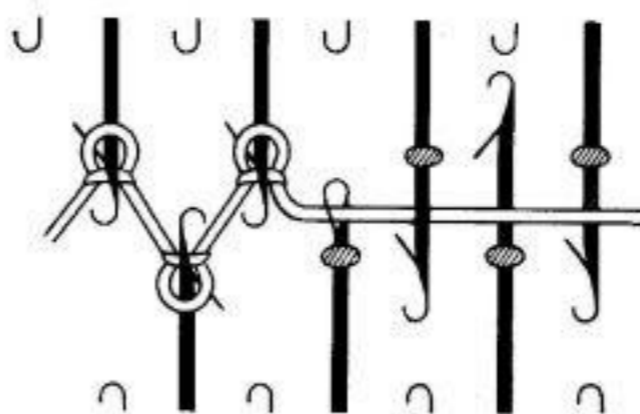

Fig. 83
3. Pass the yarn UNDER the adjacent needle in Holding Position leaving the yarn over the other needles in the Holding Position. (Fig. 83)